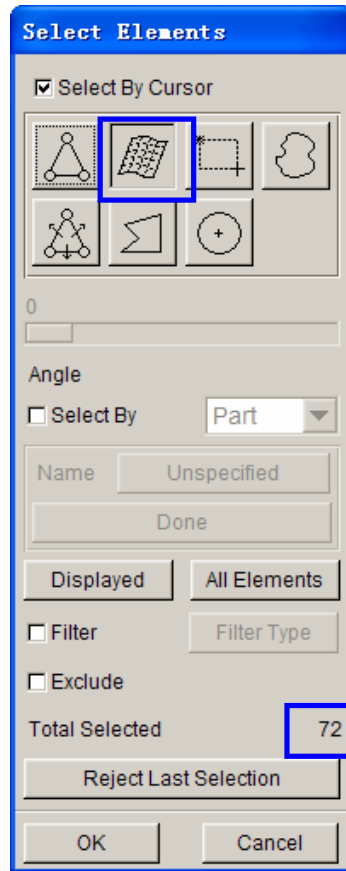

Figure 87: Select elements dialog box
24. Select the flange in the two sides of tool by way of selecting surface. The program indicates 72 elements have been selected. See Figure 87.